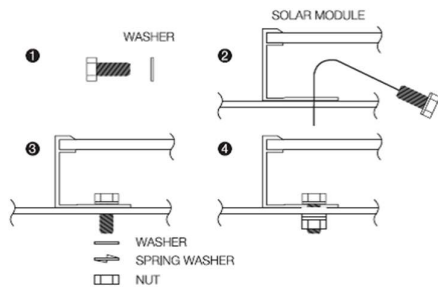

Figure 1. Mounting using bolts.
- The module must be attached and supported by four M8 stainless steel bolts through the indicated mounting holes (Figure 1). Torque on the clamp bolt has to be in range of 14-18 Nm.